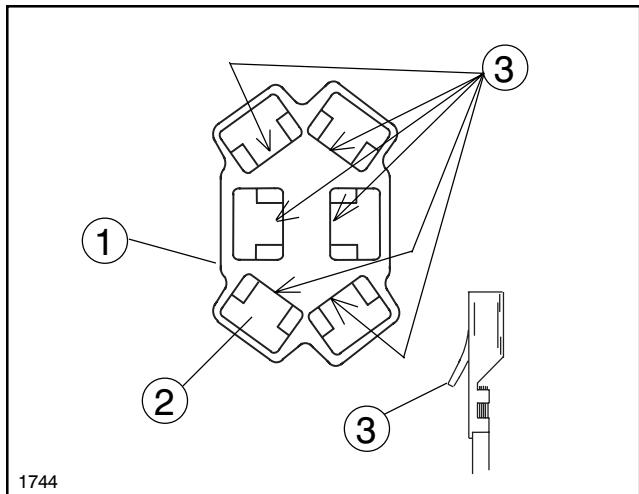

FIG. 17
11. To use the standard harness for the Sonic Boom Kit on the Multi Pro® 1250 the harness must be modified to mate with the three (3) Rocker Switches provided. Refer to steps **a** thru **d** and illustrations for this procedure.
b. Remove the wires/terminals from the 6-pin connectors using a small flat tip screw driver. Insert the tip of the screwdriver into a socket of the Connector from the side opposite of where the wires go in and on the side where the metal Tang of terminal locks into the connector. See FIG 17. Press the Tang back completely and pull the wire/terminal from the socket.